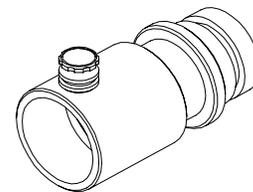

Figure 1-13. Spring Loaded Connector
j. **Spring Loaded Connector.** The spring loaded connector (Figure 1-13) was developed for use with lockstroke struts. The connector permits snug positioning of a lockstroke strut on a non-yielding surface and maintains strut compression even if slight movement occurs. A coil spring with a travel length of approximately 1/2" (1.3 cm) is used to compensate for the space between the locking grooves on the lockstroke strut.